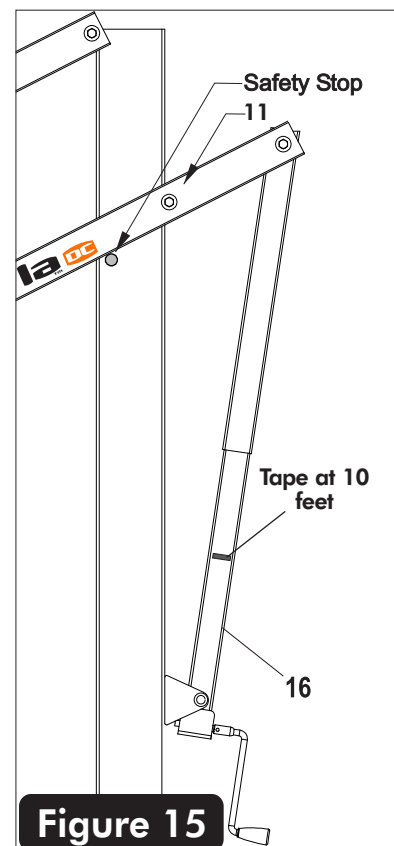

Figure 15
30. Lower backboard all the way down. Do not force actuator once backboard is in it's lowest position. See **Figure 15**.